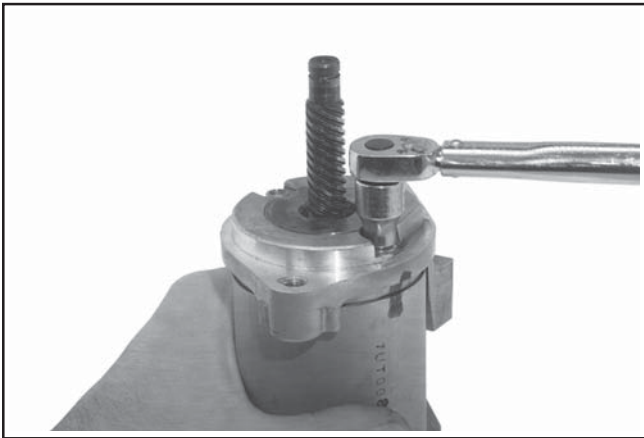

Figure 8-54. Torquing Thru Bolts.
6. Align all scribe marks and install the thru bolts with O-Rings. Torque the bolts to 5.3 N·m (48 in. lb.). See Figure 8-54.